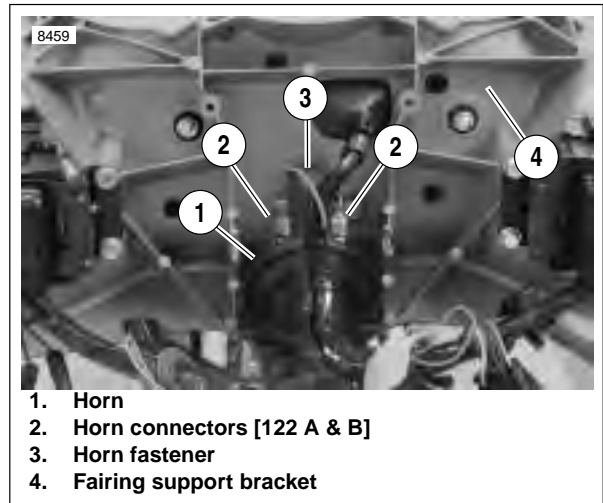
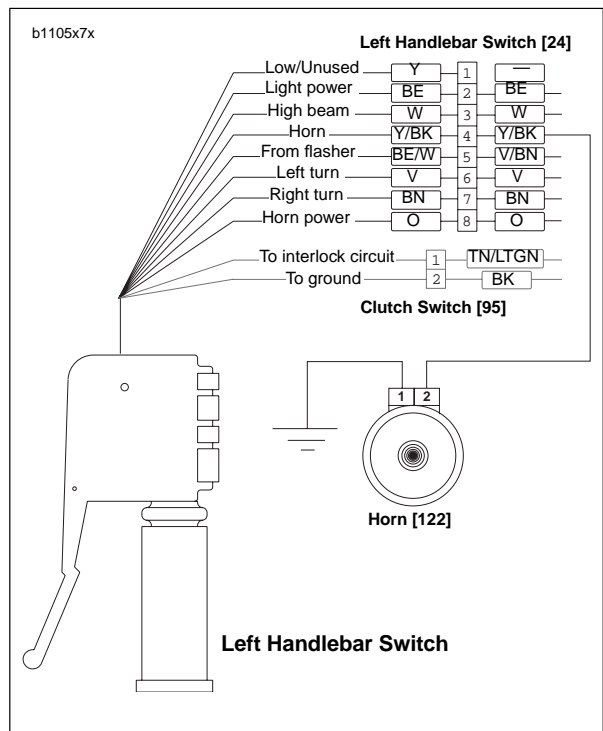

Figure 7-69. Horn Assembly
Figure 7-70. Horn Wiring
4. See Figure 7-69. Remove fastener (3).
5. Remove horn (1) from fairing support bracket (4).
6. See Figure 7-70. Detach Y/BK power wire and BK ground wire from terminal clips on horn.
1. See Figure 7-70. Connect Y/BK power wire and BK ground wire to terminal clips on horn.
2. See Figure 7-69. Attach horn (1) to fairing support bracket (4) using fastener (3). Tighten to 72-96 in-lbs (8.1-10.8 Nm).
- a. See Figure 7-70. Remove Y/BK power and BK ground wires from terminal clips.